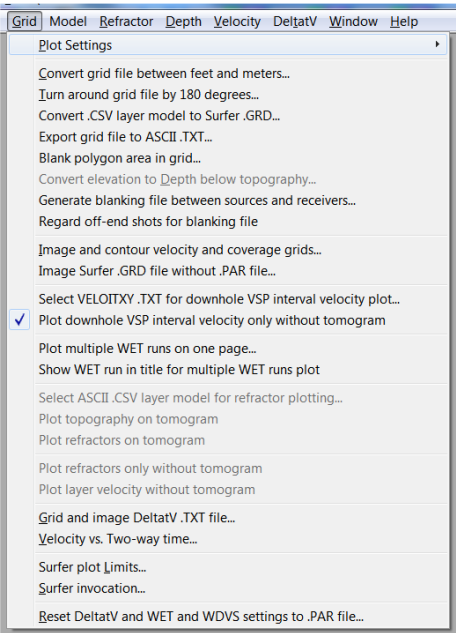

Fig. 24 (right) : select new version 5.03 Grid menu option **Plot downhole VSP interval velocity only without tomogram**
7. check new 5.03 option **Grid\Plot downhole VSP interval velocity only without tomogram**. See Fig. 24.
11. select command **Grid\Image and contour velocity and coverage grids** shown in Fig. 24